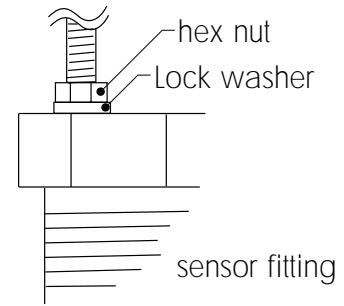

Fig. 8
A. Thread one hex nut onto each of the three threaded rods included in package. Install threaded rod with a lock washer onto the sensor fitting. Secure rods in place by tightening each hex nut against the sensor fitting. (Fig. 8)